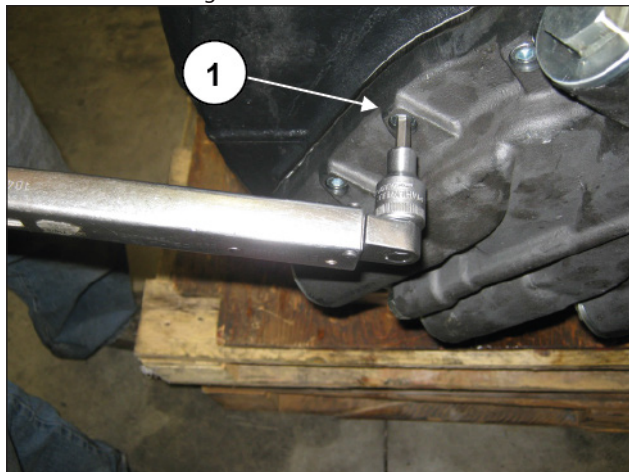

Fig. 128
Insert the O-ring into the seat of the oil air exchanger adapter (pos. ①, Fig. 128) making sure it is correctly positioned.